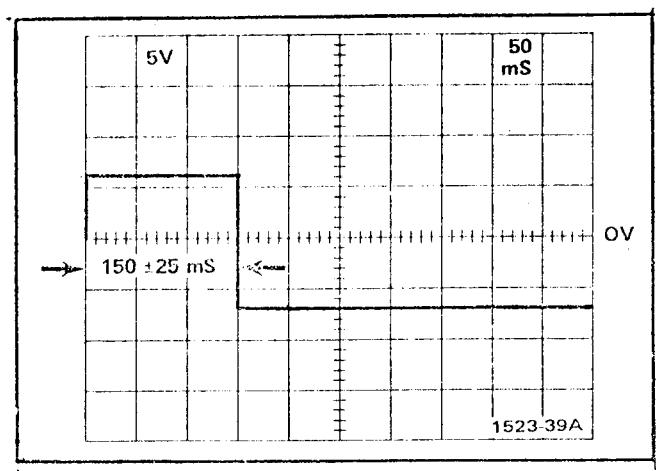

Fig. 5-8 QRS Width.
- b. CHECK - Pulse duration at TP388 is  $150 \pm 25$  ms ( $200 \pm 25$  ms in instruments below serial number B142005); see Fig. 5-8.
Fig. 5-8 to show  $150 \pm 25$  ms pulse instead of the  $200 \pm 25$  ms pulse.